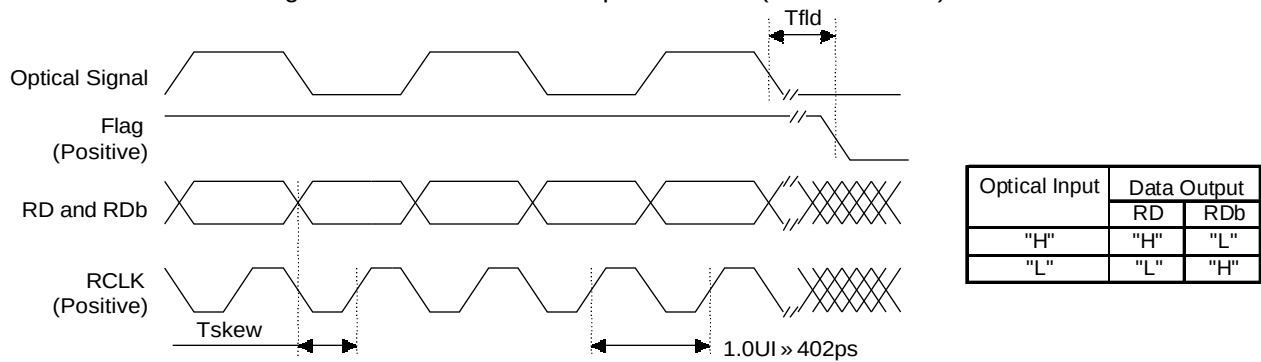

Figure 4 Output Timing Chart
5. R_I = 50 Ω , Single end out. 6. Please refer to Figure 4. 7. 2488.32Mbps, PRBS 2²³-1, NRZ 8. Pin=-9dBm 9. Pin=-28dBm
1. BER = 10⁻¹⁰ 2. 2488.32Mbps, PRBS 2²³-1, NRZ 3. Please refer to Figure 4